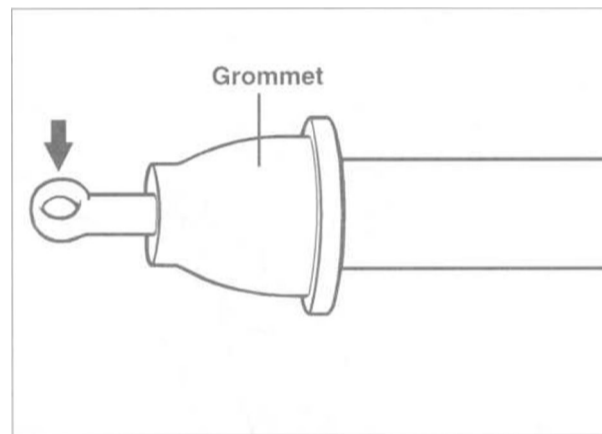

Fig. 13. Tailgate window support strut ball end (**arrow**)
7. Pry end of strut off of ball stud within roof cavity. See Fig. 13.